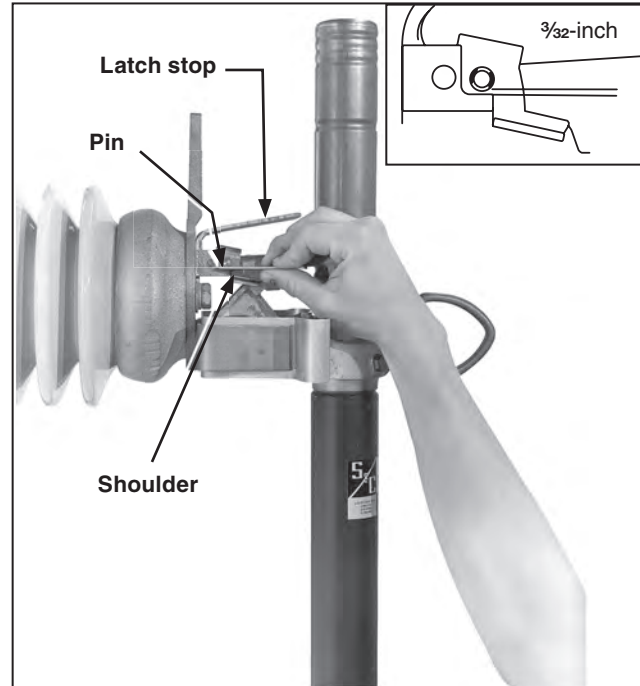

Figure 6. Checking clearance between pin on latch assembly and shoulder contact casting.
An SMD fuse manufactured prior to the fall of 1963 cannot be slammed shut. It lacks the latch stop indicated in Figure 6, and must be closed with a deliberately positive motion and solid follow-through. Or, it may be closed as a two-stage operation: (1) swing the fuse unit upward to bear against the upper contact; and (2) push the fuse unit into the contact with a follow through motion. These methods of closing give the latching members time to seat properly and prevent the fuse unit from recoiling out of the contact.
STEP 5. With the fuse-unit assembly closed, check for $\frac{3}{32}$ -inch (2 mm) clearance between the pin on the latch assembly and the shoulder on the contact casting below. See Figure 6.